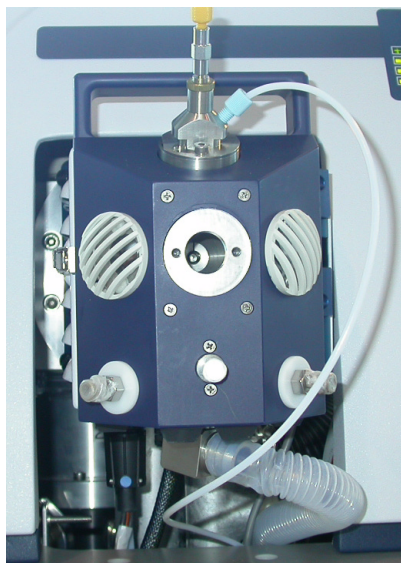

Figure 6-14 Port Covers Removed for E-Z Nanospray
2. Remove the louvered plastic cover and the glass cover from the port on the front of the spray chamber (Figure 6-14).